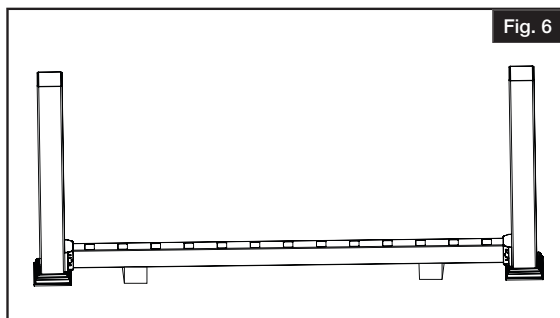

Fig. 6
- Slide bottom rail in between posts and rest on top of wood spacer blocks (Fig. 6).